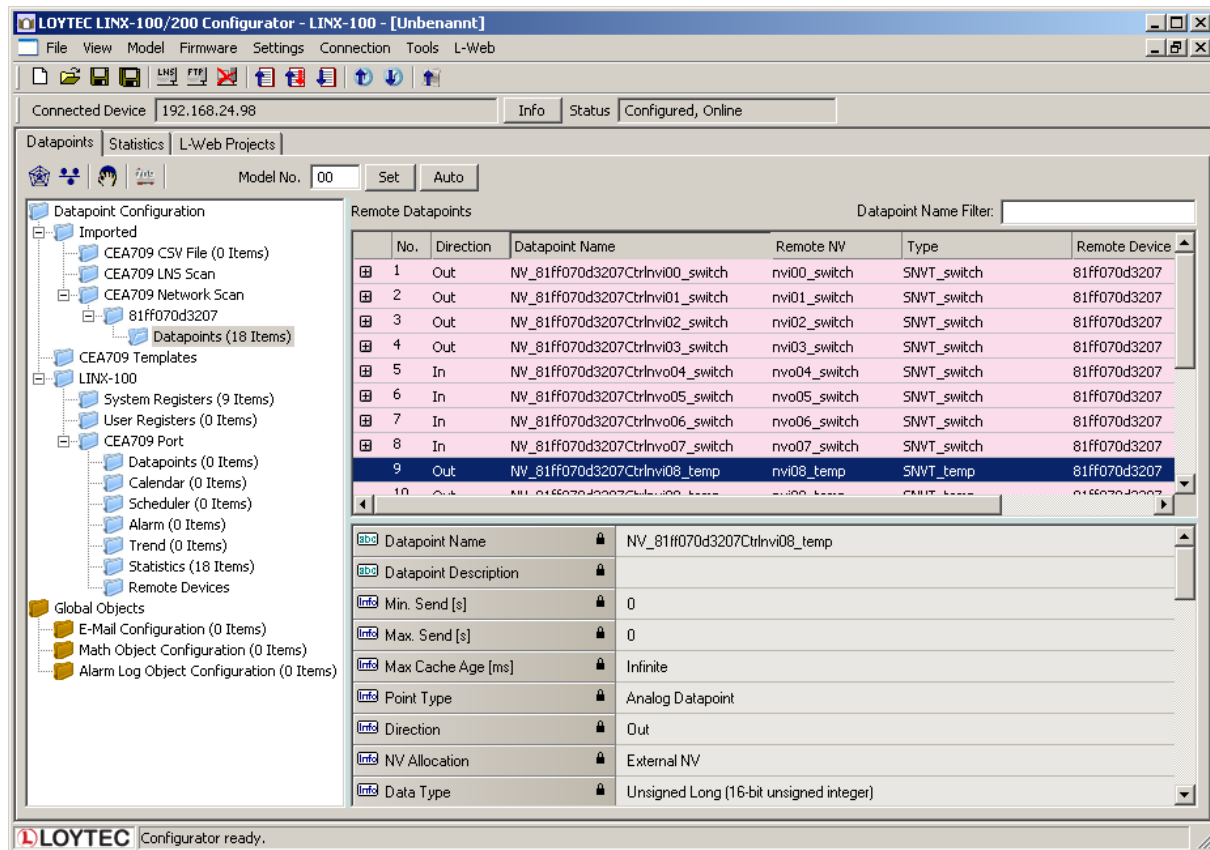

Figure 121: CEA-709 network scan results.
9. Then click the button **Scan**. This scans the NVs on the selected device and adds them to the CEA709/852 Network Scan folder as a separate sub-folder for the device as shown in Figure 121.